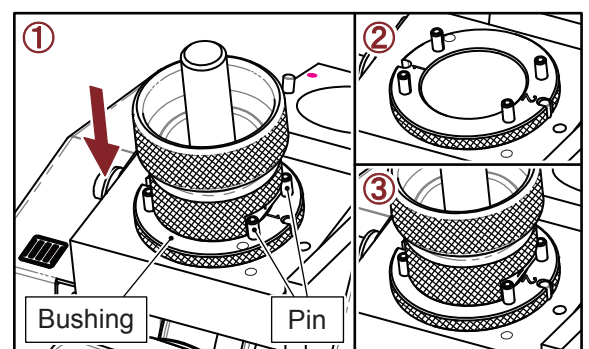

Fig. 5-14
3) 2 Flute End Gash Grinding (IIII) (Fig. 5-14)
① Insert the chuck set into the bushing on the Shelf (IIII), align Slot No.1 to the two pins where marked as No.1, push the chuck set gently until the grinding noise stops.
② Take the chuck set out and turn the bushing to No.2, align No.2 to the pin on the shelf, then insert it to the end.
③ Insert the chuck set into the bushing, align Slot No.2 to the two pins where marked as No.2, push the chuck set gently until the grinding noise stops.